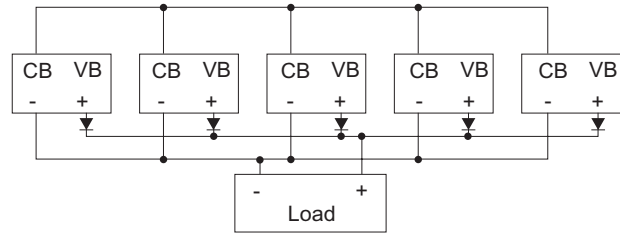

Fig.5.9 N+1 redundant operation which uses diode
- ⑤ If diodes are used to configure a circuit to achieve even higher reliability, use connections as in Fig. 5.9.